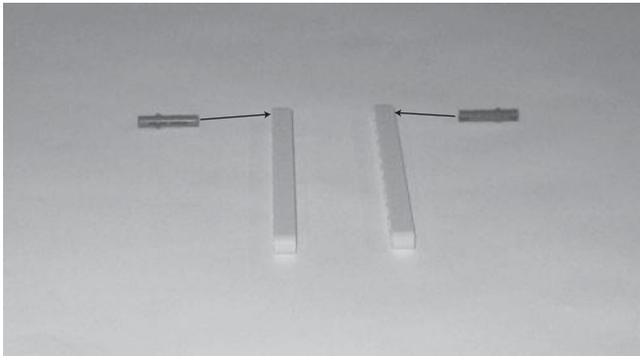

Figure 11.11
Step 1: Connect a pair of connector pegs with friction 3M to two 11M straight beams, as shown in Figure 11.11.